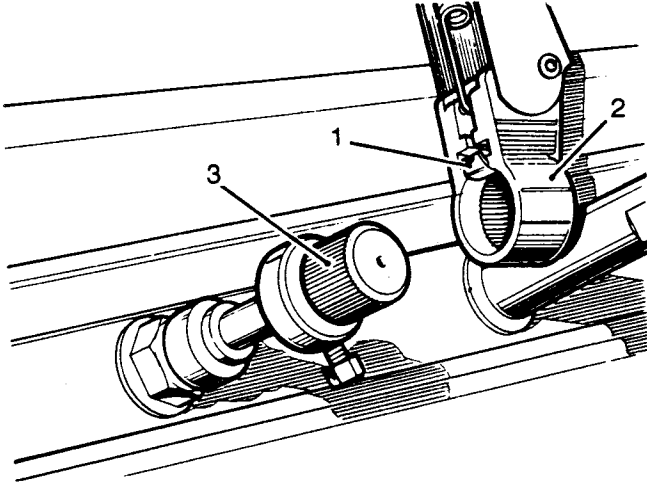

Fig V3.6
- (1) Refer to Fig V3.6. Using a small screwdriver, hold back the spring clip (1) which retains the wiper arm on the spindle.
- (2) Withdraw the wiper arm (2) from the spindle boss (3).